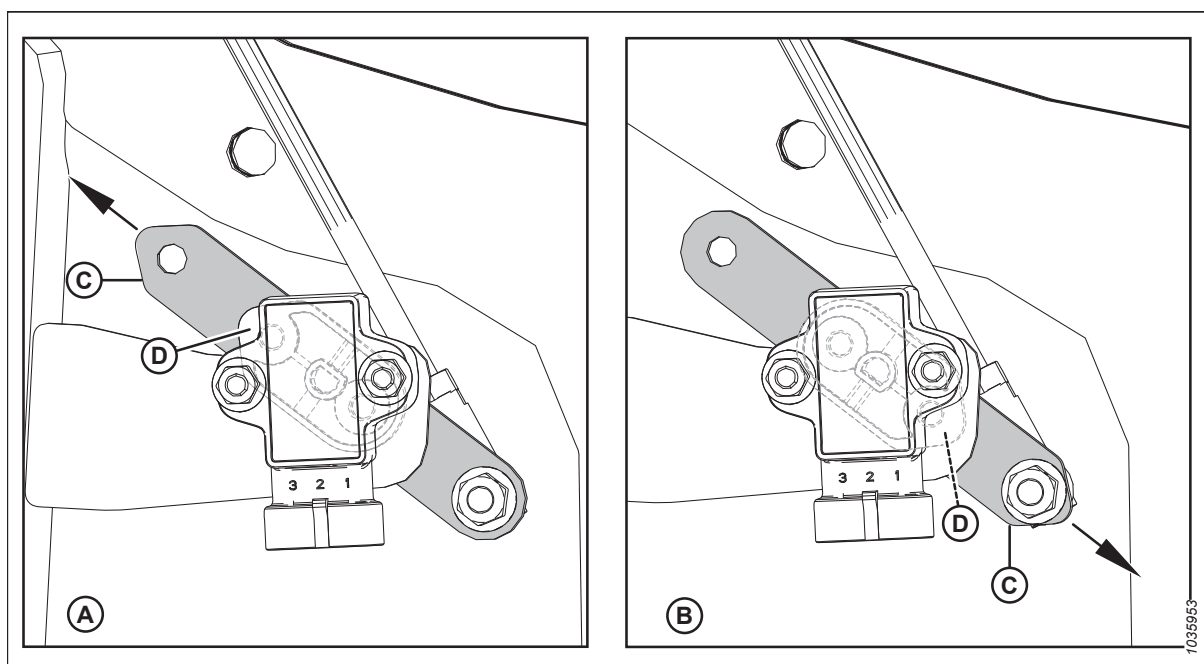

Figure 3.325: Sensor Arm/Pointer Configurations
- Ensure that sensor arm (C) and pointer (D) are configured properly for the header. For instructions, refer to Figure 3.325, page 222.